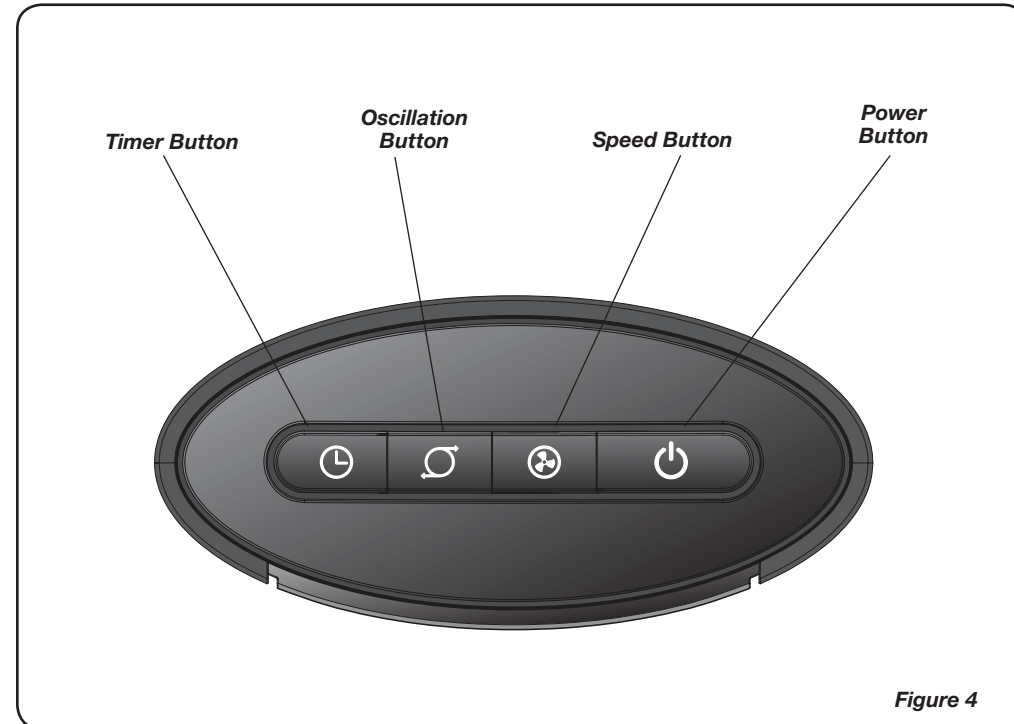
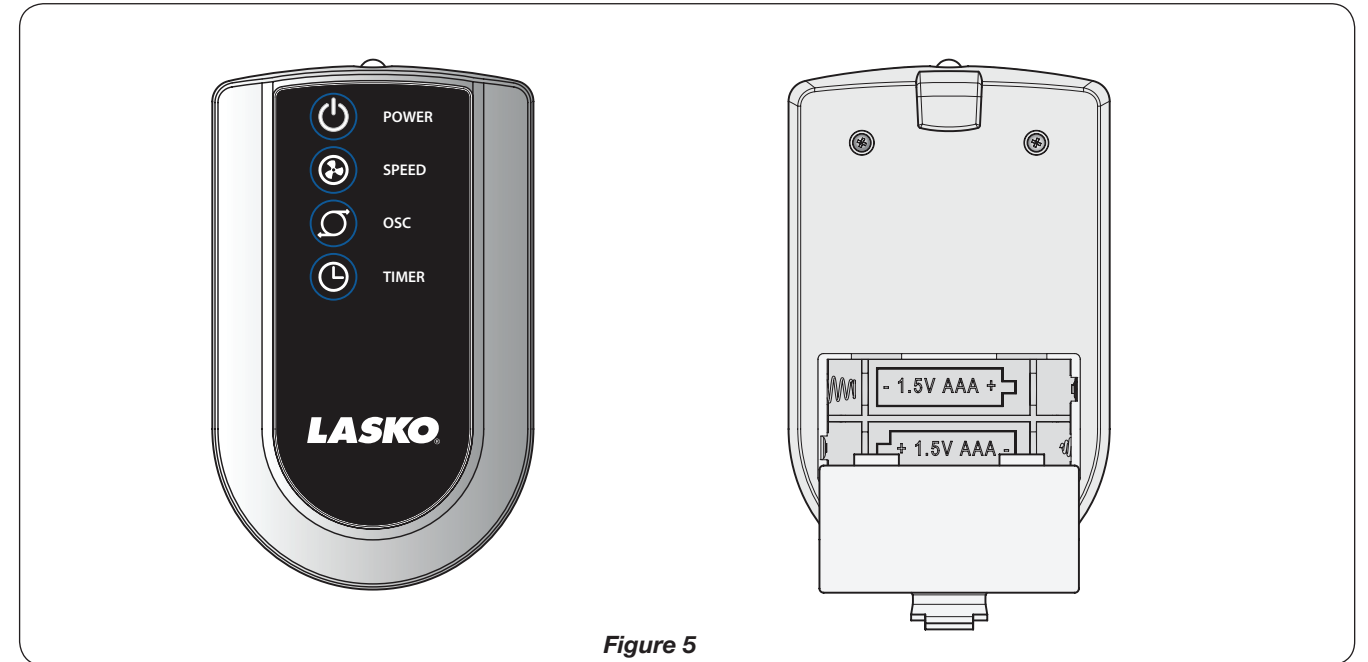

Figure 4
Figure 5
OPERATION (Figures 4 and 5)
This Fan may be operated by the Manual Controls located on top of the unit (as shown in *Figure 4*) or by the Remote Control (shown in *Figure 5*).
REMOTE CONTROL (Figure 5)
- Install batteries (not supplied) as shown in Figure 5. The battery is size "AAA".